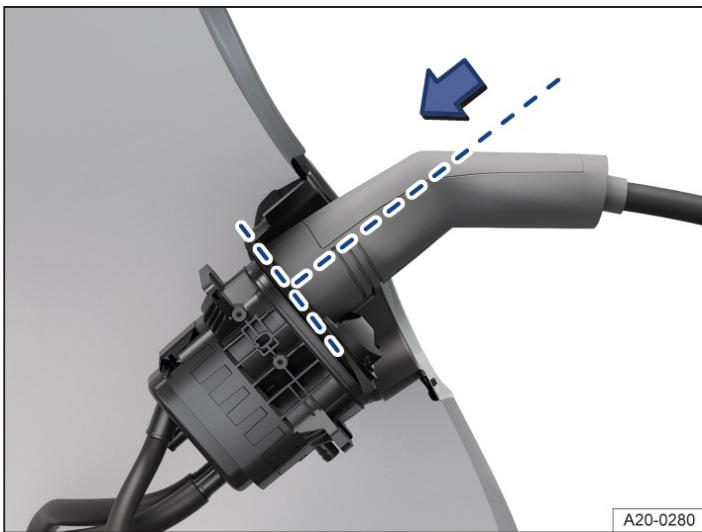

Fig. 2 At the charging socket: fully plugged charging connector (schematic diagram).
4. Insert the charging connector into the charging socket ensuring that it is inserted straight → *Fig. 2* 2. Check whether the charging connector is inserted all the way → *Fig. 2*.